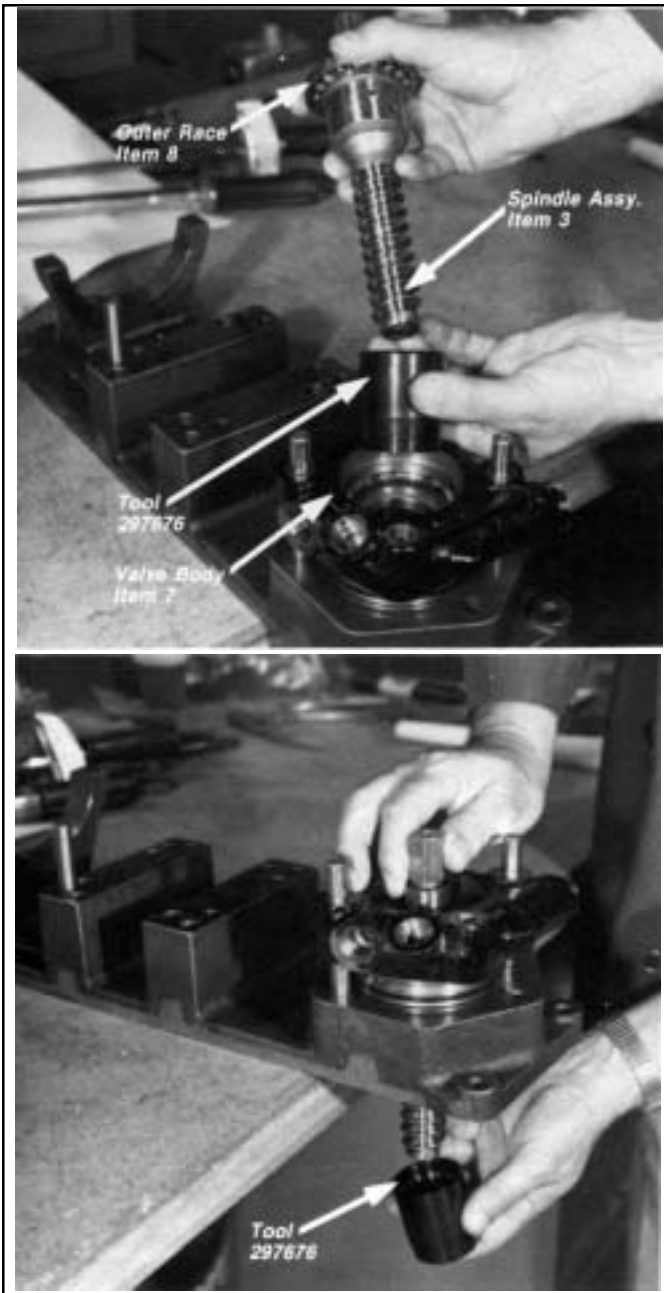

FIGURE 44 - INSTALLING SPINDLE ASSEMBLY
8. Install the outer ball bearing race half (8) over the input shaft end of the spindle assembly (3) and insert the spindle assembly through Bendix tool 297676. Insert the spindle and tool into the valve body (3) until tool completely exits the other side and the seventeen balls (9) of the bearing assembly are resting against the outer race (8) in the valve body. Figure 44